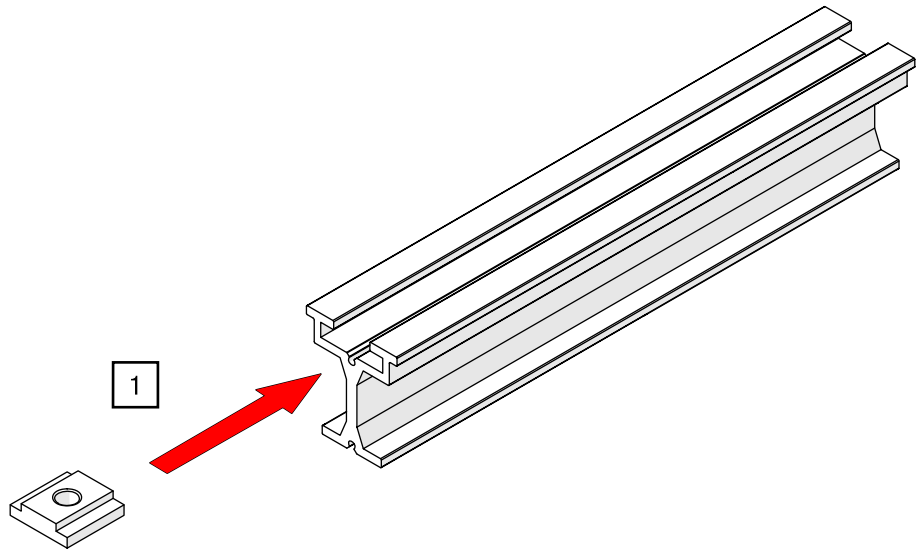

Fig. 57: Slide-in slot nut
1. Slide the slot nut into the profile (see Fig. 57).